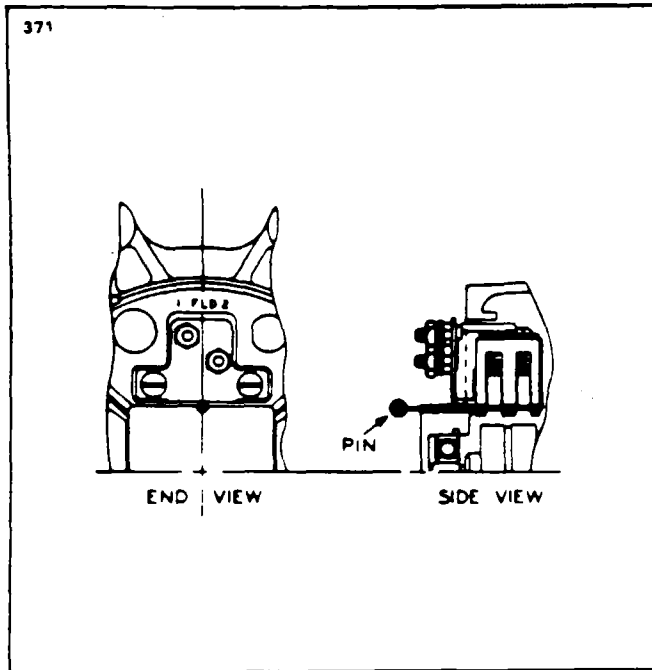

Figure 24-14. Brush Installation
3. Brushes: These units have a separate brush holder assembly that is installed after the alternator has been assembled. The brush holder has a small hole that intersects the brush cavities. Use a pin or a piece of wire, as shown in Figure 24-14 to hold the brushes in the holder during assembly. Remove the pin after the brush holder retaining screws have been tightened. Make a continuity check to be sure the brushes are seated against the slip rings.